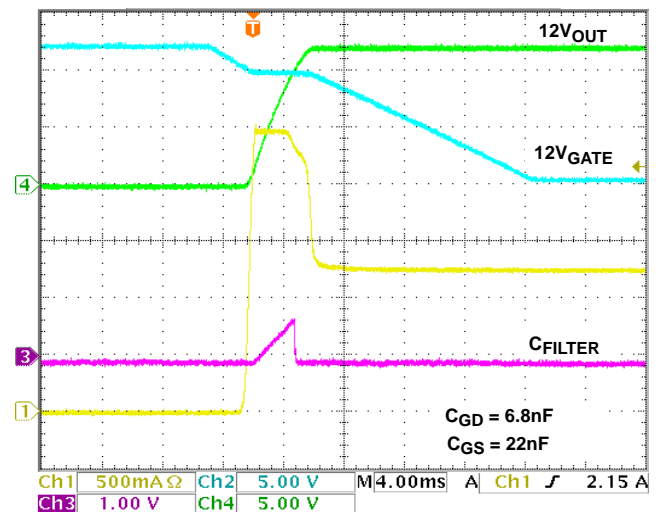
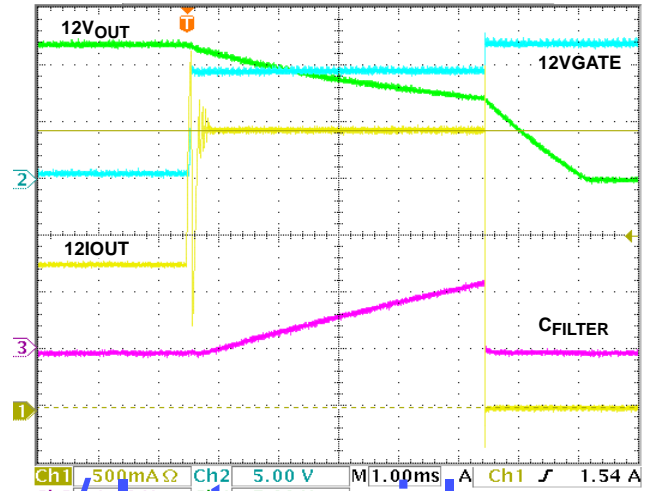
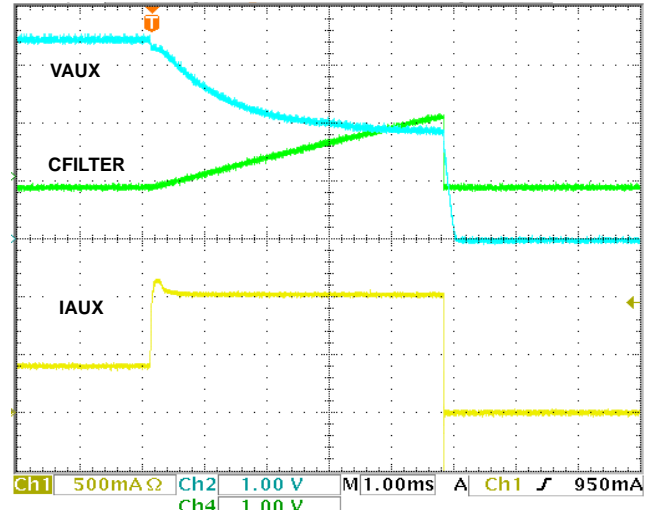

FIGURE 3. ISL6113 12VMAIN START-UP  $R_{LOAD} = 10\Omega$ ,  $C_{LOAD} = 470\mu F$
FIGURE 12. ISL6113 12VMAIN CR AND SHUTDOWN
FIGURE 16. VAUX OC REGULATION AND SHUTDOWN
Note that all of these performance estimates and guidelines are useful only for first order time and loading expectations, as they do not look at other significant loading factors. Figures 3 through 11 realistically illustrate the discussed turn-on performance topic with the noted loading and compensation conditions. Notice the degree of control over the in-rush current and the GATE ramp rate as the  $C_{GD}$  and  $C_{GS}$  values are changed or varied for highly customized turn on characteristics.
The ISL6113, ISL6114 provides a current limiting function that protects the input voltage supplies against excessive current loads, including short circuits during turn-on (MAIN supplies shown in previous Figures 3 through 11) and during static operation for both MAIN (Figures 12 through 15) and AUX supplies (Figures 16 and 17). When during static operation, any load current causes  $>V_{THLIMIT}$  (nominally 50mV) drop across a sense resistor thus exceeding the programmed CR limit, the
The VAUX outputs have a different circuit-breaker function. The VAUX circuit breakers do not incorporate a fast-trip detector, instead they regulate the current into a fault to avoid exceeding their operating current limit. The circuit breaker will trip due to an overcurrent on VAUX when the programmable CR duration timer,  $t_{FLT}$  expires. This use of the  $t_{FLT}$  timer prevents the circuit breaker from tripping prematurely due to brief current transients. See Figures 16 and 17 for illustrations of the VAUX protection performance into an over current (OC) and more severe OC condition respectively. The ISL6113, ISL6114 AUX current control responds proportionally to the severity of the OC condition resulting in appropriately fast VAUX pull down and current regulation until  $t_{FILTER}$  has expired.